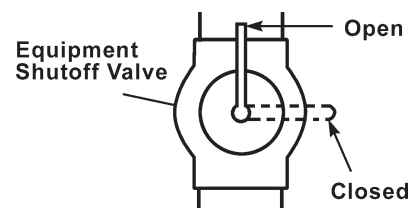

Figure 15 - Equipment Shutoff Valve
1. Close equipment shutoff valve (see Figure 15).
3. Check all joints from gas meter to equipment shutoff valve (see Figure 15). Apply mixture of liquid soap and water to gas joints. Bubbles forming show a leak.